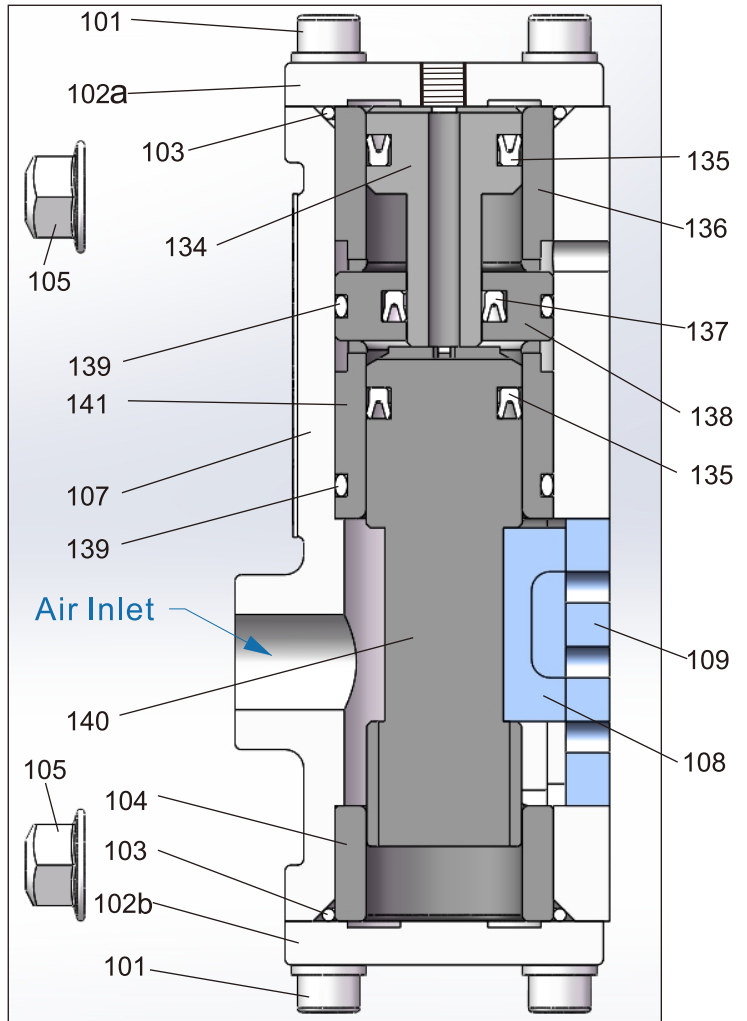

Figure 7
1. Remove (105) nuts, then remove the assembly of major valve. See Figure 7.
2. Remove (109) valve plate and (108) valve insert. See Figure 7.
3. Remove (101)screws, (102a & 102b)covers. See Figure 7.
4. Remove (103)O-rings. See Figure 7.
5. Remove (140),(138),(136) &(134) .See Figure 7.
6. Remove (141). See Figure 7.
7. Remove (104). See Figure 7.
8. Remove (135)Y-type ring from (134); Remove (137) Y-type ring from (138); Remove (139)o-rings from (138) &(141). See Figure 7.